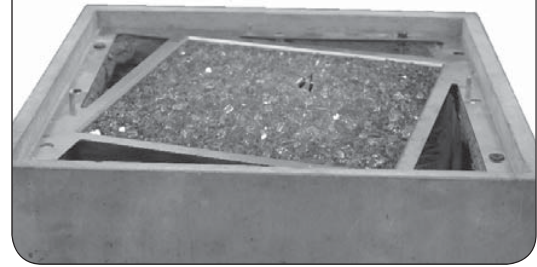
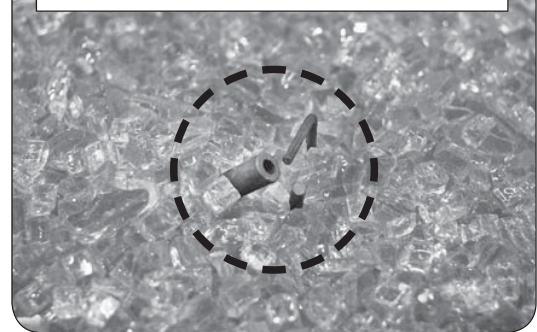
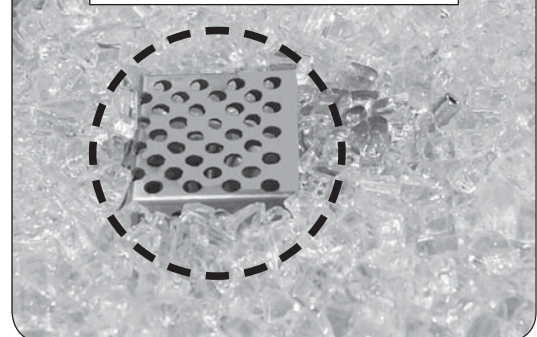

Fig. 22-1 Glass placement
Fig. 22-2 Required clearance-V/K-1 models
Fig. 22-3 Required clearance-E/S-1 models
Pour the glass media (glass/gems) evenly into the burner pan (see Fig. 22-1 and Fig. 22-2 or 22-3).
- **Keep the pilot screen (or electrode, flash tube, and inside of the flash tube) clear of glass media and any other items / debris at all times. This will allow for proper ignition and operation. DO NOT COVER.** See Fig. 22-2 or Fig. 22-3.